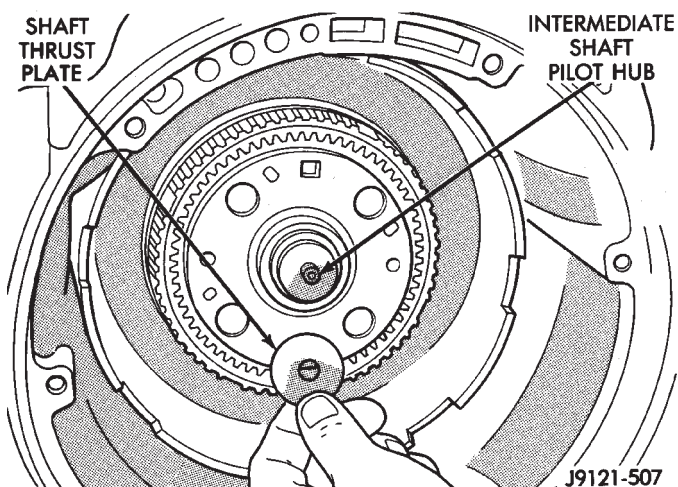

Fig. 27 Removing Intermediate Shaft Thrust Plate—46RH
(27) Remove thrust plate from intermediate shaft hub (Fig. 27).